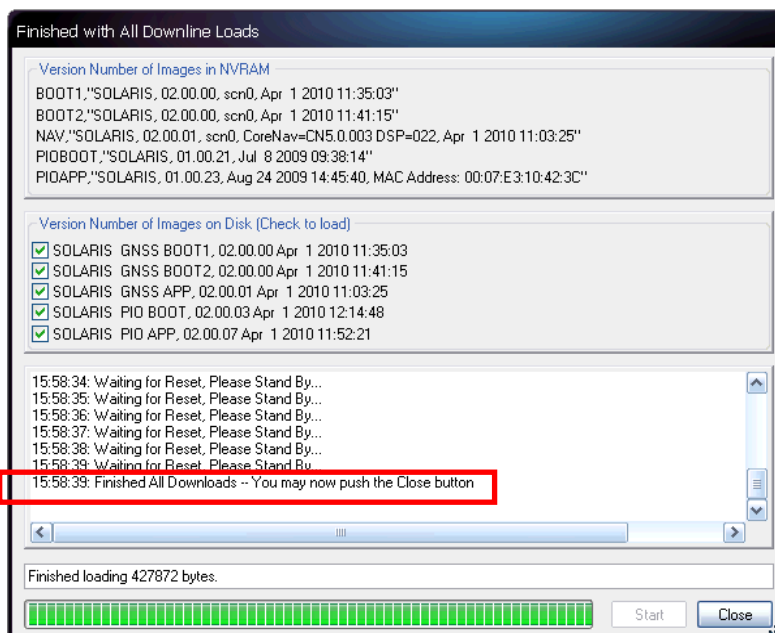

Figure 13: Finished All Downline Loads
8. Once the firmware files have been uploaded, the *Finished with All Downline Loads* dialog box is displayed (see Figure 13).